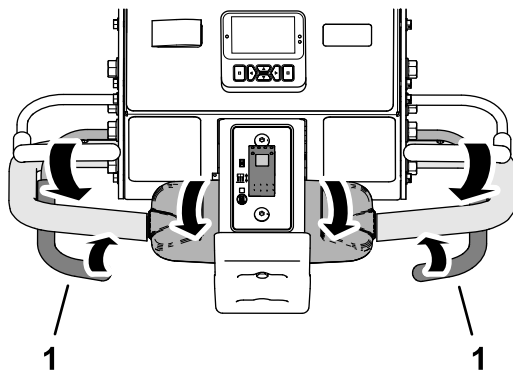

Figure 83
3. As the front tire rolls over the perimeter of aeration area, close either the left or right the aerate bail (Figure 83).